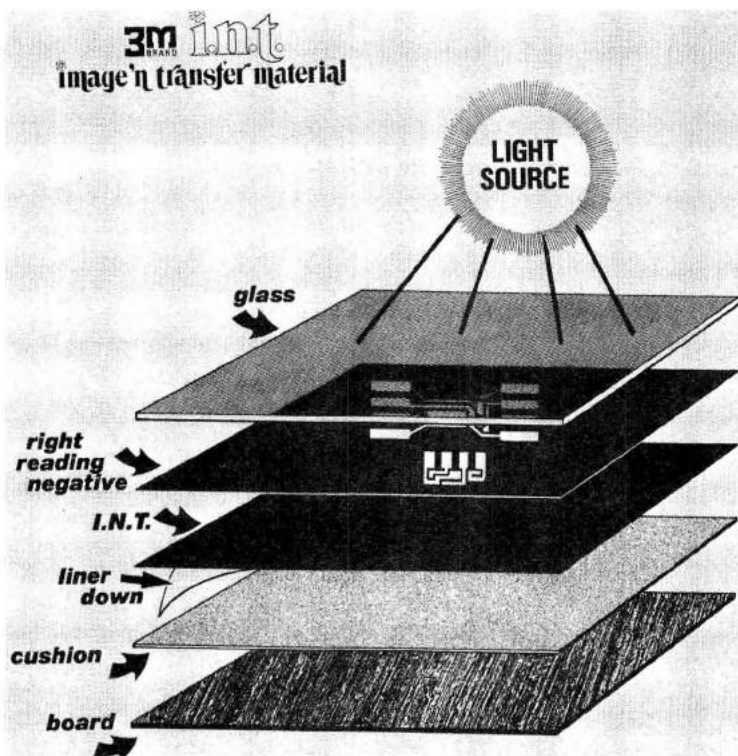

Fig. 3-14. Image-N-Transfer sandwich ready for exposure. Be careful to arrange negative (or artwork) correctly in relation to I-N-T film. (Courtesy 3M Company.)
The following procedure should be observed. Refer to Fig. 3-14.
2. Place transparent artwork on top of the I-N-T film in the position labelled "right reading negative" in Fig. 3-14. Be sure the artwork is right reading from the top view.